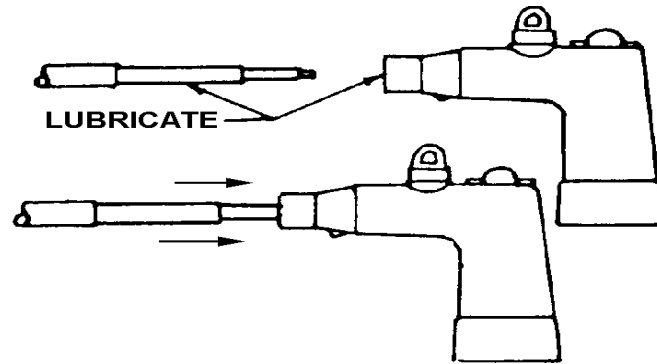

Figure 7, Lubrication points
- Wipe a small amount of silicon grease supplied on the exposed cable insulation and in the cable entrance of the elbow before installing cable (Figure 7).